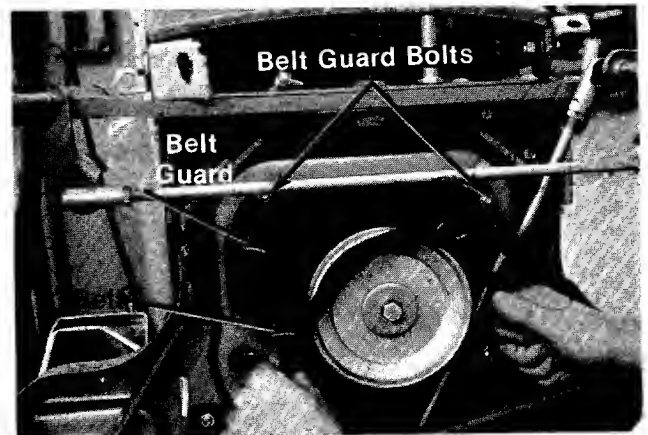

FIGURE 29.
3. Unhook the belt from the engine pulley. See figure 29.